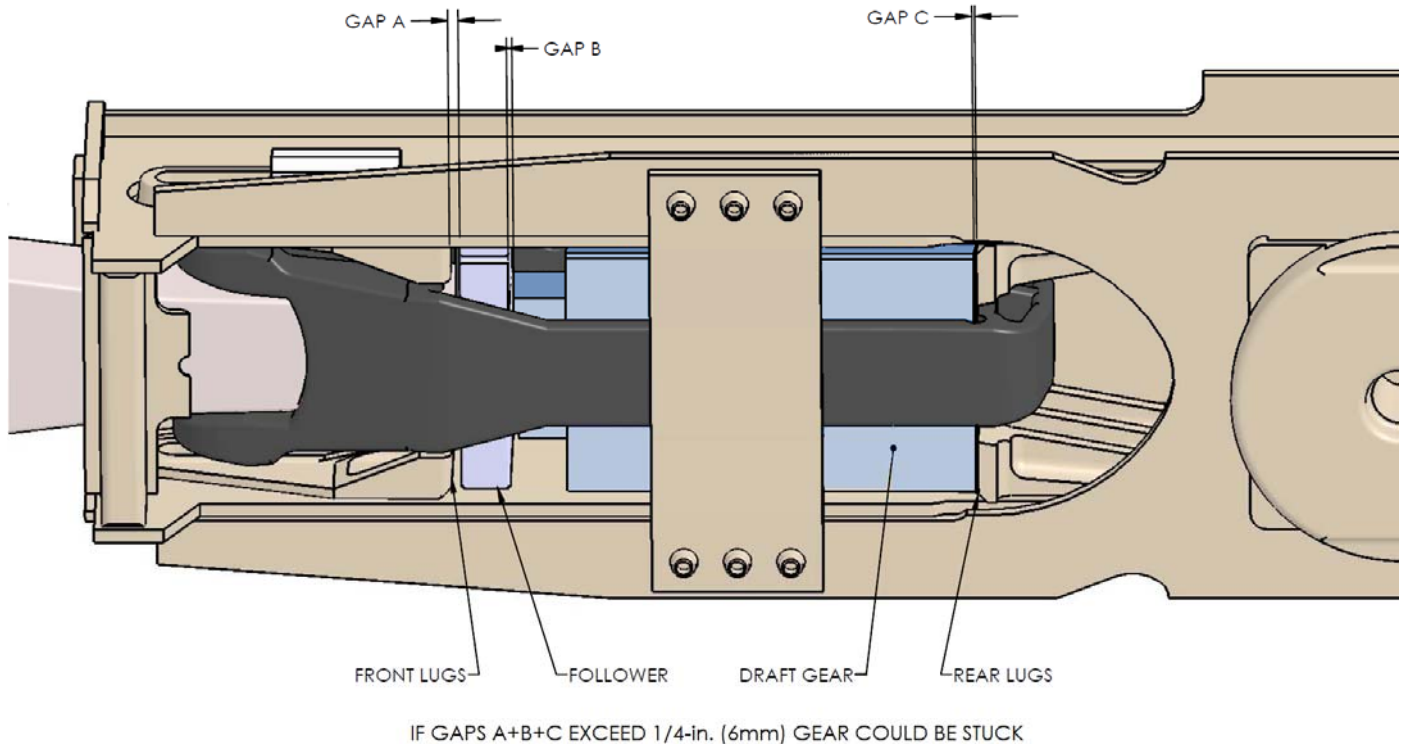

Figure 2.2.2: Bottom View of Gear-Sill-Yoke Assembly
2.2.2 To avoid personal injury, a visual inspection should be made of the draft gear system to determine if the draft gear is in a "stuck" condition or if any other unsafe or abnormal condition is evident. If an abnormal condition is present, proceed with extreme caution. "Stuck" gear is a term used to describe a condition where abnormal friction or unseen broken parts prevent the components of the friction clutch, still under high force, from returning to their normal fully released position and filling out the draft gear pocket. This inspection applies only to draft gear systems that are not coupled. Certain gaps can be present as shown, if the car is coupled. See Figure 2.2.2. GAP A is the distance between the follower and front lugs. GAP B is the distance between the wedge of the draft gear and the follower. GAP C is the distance between the rear lugs and the back of the draft gear housing. Any total longitudinal gap (GAP A+ GAP B + GAP C) in excess of 1/4 in. (6mm) between the gear, follower, and the car pocket should be viewed with great caution: